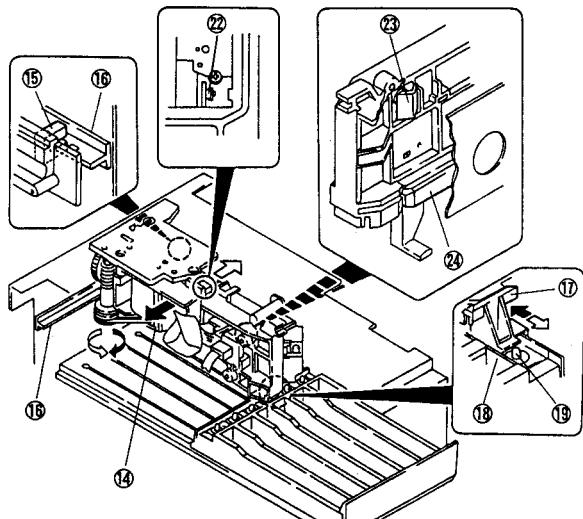

Fig. 10-6
When key operations for loading the first cassette tape are performed, the carrier ⑭ moves in the arrow direction from the cassette mechanism position (home position) to the first cassette tape position as shown in Fig. 10-6.
The carrier ⑭ is equipped with a selector ⑰ as shown in Figs. 10-6, 10-7, which pushes the stopper pin ⑯ mounted to the cassette holder ⑮. (Same as the original mechanism.)
The home position is detected by the SW4 (② of Fig. 10-6) mounted on the carrier ⑭.
Like the original mechanism, the cassette half ⑦ is pressed to the cassette mechanism by the cassette pressure B (④ of Fig. 10-6) mounted to the carrier ⑭.
*If the tray is opened with the cassette half ⑦ loaded onto the cassette mechanism, the loaded cassette tape can be detected easily as the color of the cassette holder ⑧ is gray. (Like before, even if the cassette half ⑦ is mounted on the loaded cassette tape, and the tray close operation is made, it will immediately open in the reverse direction.)